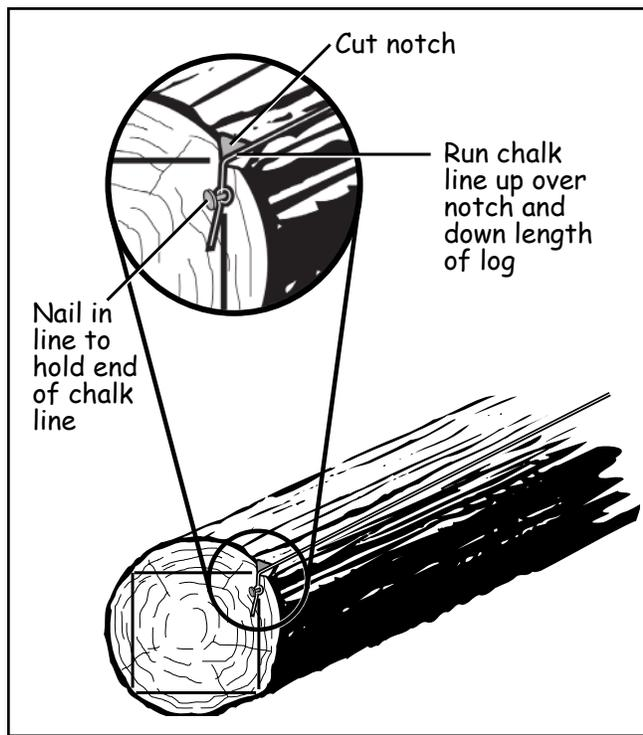

Figure 100—Here's a way to secure one end of the chalk line while you move to the other end.
- Snap a chalk line from the upper corner of the layout on one end to the corresponding corner on the other end (Figure 99). It is easier to do if you first cut a notch in the log with your pocket knife immediately above the scribed vertical line. Drive a nail into the vertical line just deep enough to hold one end of the chalk line. Run the chalk line up through the notch and along the length of the log (Figure 100). Then, holding the line tightly at the other end, snap the line by raising it straight up and letting it go.